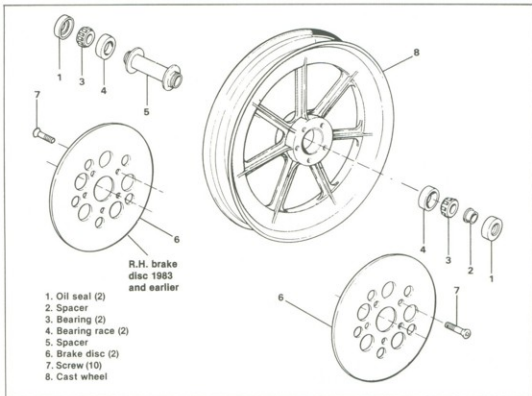

Figure 2-10. FX Cast Front Wheel
CAST WHEEL (Figure 2-10)
1. Place wheel between fork legs with spacer (2, Figure 2-10) facing to the motorcycle left side.